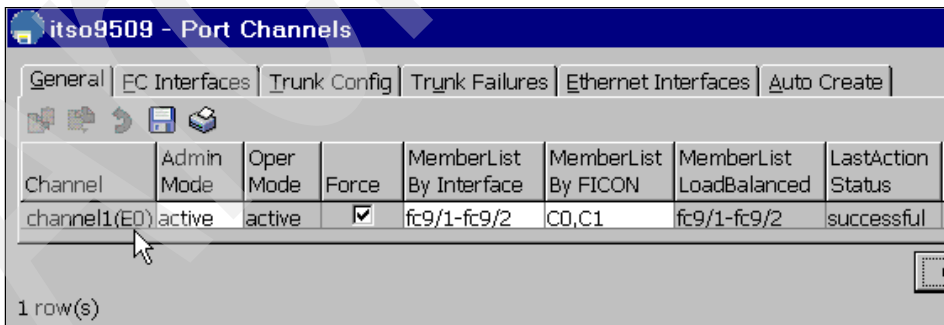

Figure 43 9509 verification
- We did the same on the 9509 as shown in Figure 43.